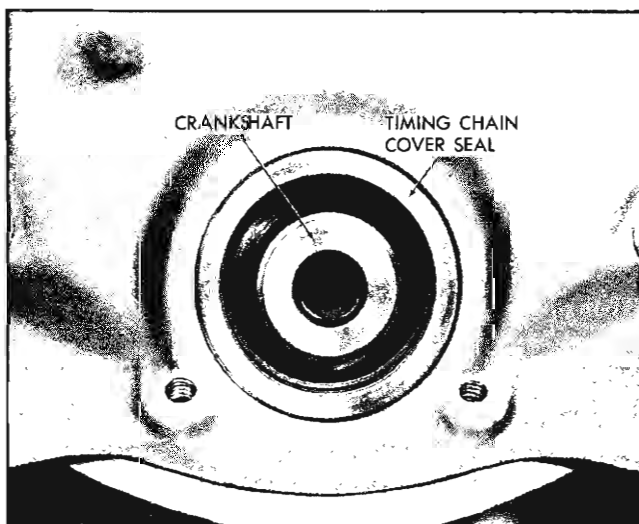

Fig. 6-40 Timing Chain Cover Seal
4. Remove timing chain cover seal by prying out of bore with pry bar (Fig. 6-40).